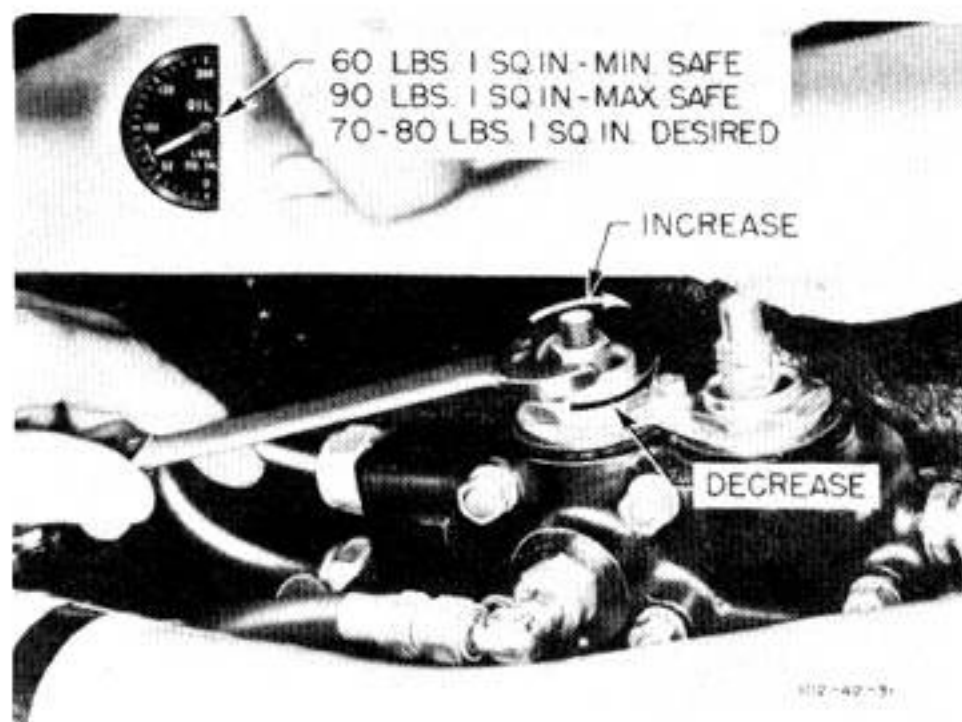

Figure 269—Adjusting Oil Pressure
(2) ADJUSTING OIL PRESSURE RELIEF VALVES. (See figure 269.)—Adjustment of the oil pressure in the engine main pressure and low pressure circuits is accomplished by varying the load on the relief valve spring provided for each circuit. The main pressure oil circuit, which is provided with a pressure gage on the instrument panel, should be set at approximately 75 pounds per square inch, at normal operating temperature. The low-pressure circuit, which is not provided with a gage, should be set at approximately 6 pounds per square inch at normal operating temperature. The low pressure should be checked and adjusted only when it is definitely known that the main pressure circuit is in proper adjustment. The procedure for adjusting the high or low pressure is as follows: